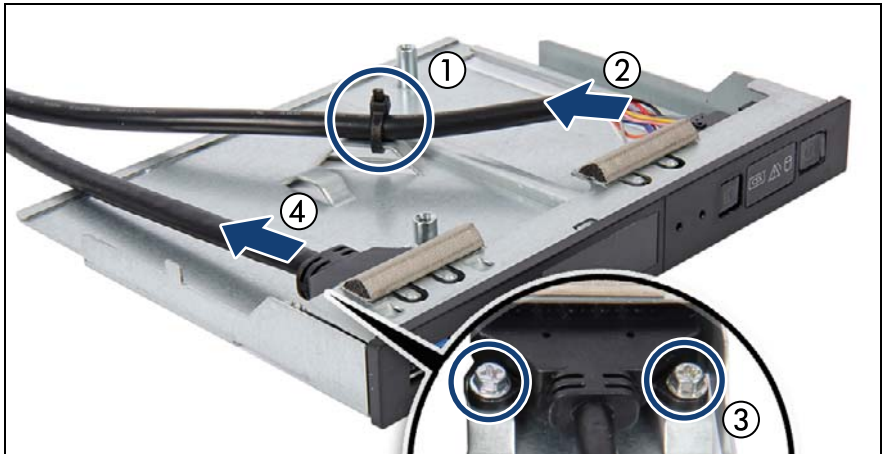

Figure 270: Removing the front panel cables
- ▶ Open the cable tie (1) and remove the front panel cable (2).
- ▶ Remove the two screws (3) and remove the front USB cable (4).
- ▶ Connect the front panel cable to the new front panel module and secure it to the lug with a new cable tie (see figure 270).
- ▶ Connect the front USB cable to the new front panel module and secure it with two screws (see figure 270).